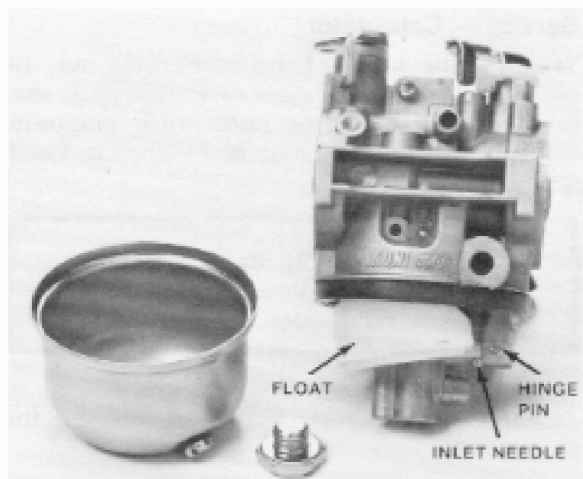

Figure 3-9
5. Hook the inlet needle into the float and secure the float and needle in place with the hinge pin. See Fig. 3-9.